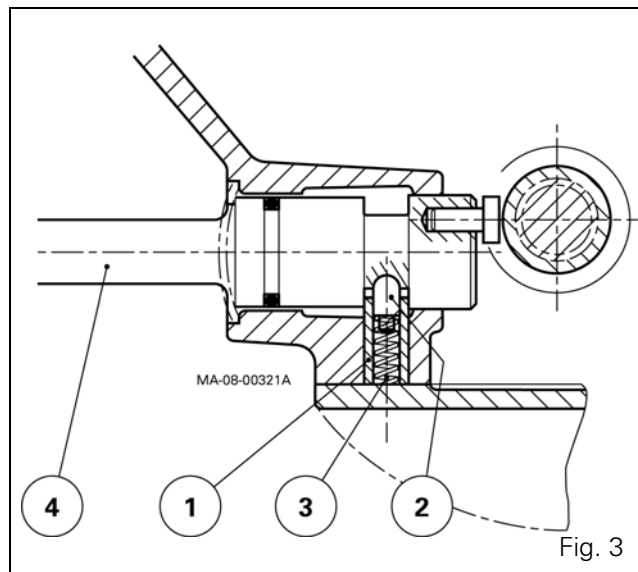

Fig. 3
3. Remove the screws (10) and the cover plate (17).
NOTE: On tractors fitted with proportional PTO, recover the spring (3), the detent plunger (2) and the retainer pipe (1) (Fig. 3).